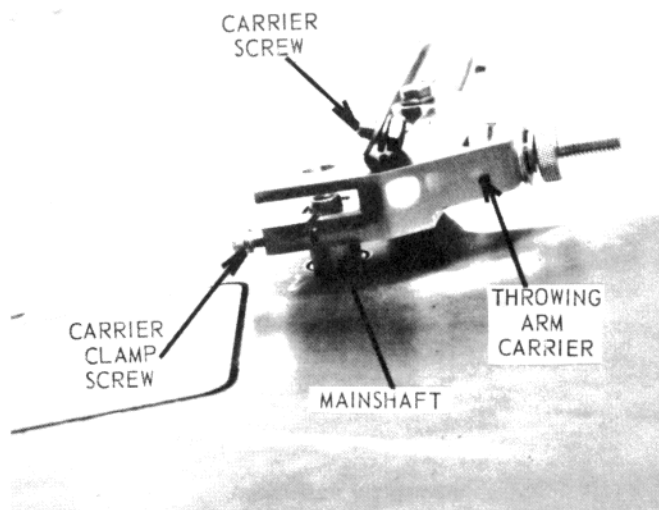

Figure 30 — Throwing Arm Assembly
- 1.2.5 Remove the throwing arm assembly by removing the carrier screw, loosening the carrier clamp screw, and lifting or prying the carrier off the shaft (see Figure 30).